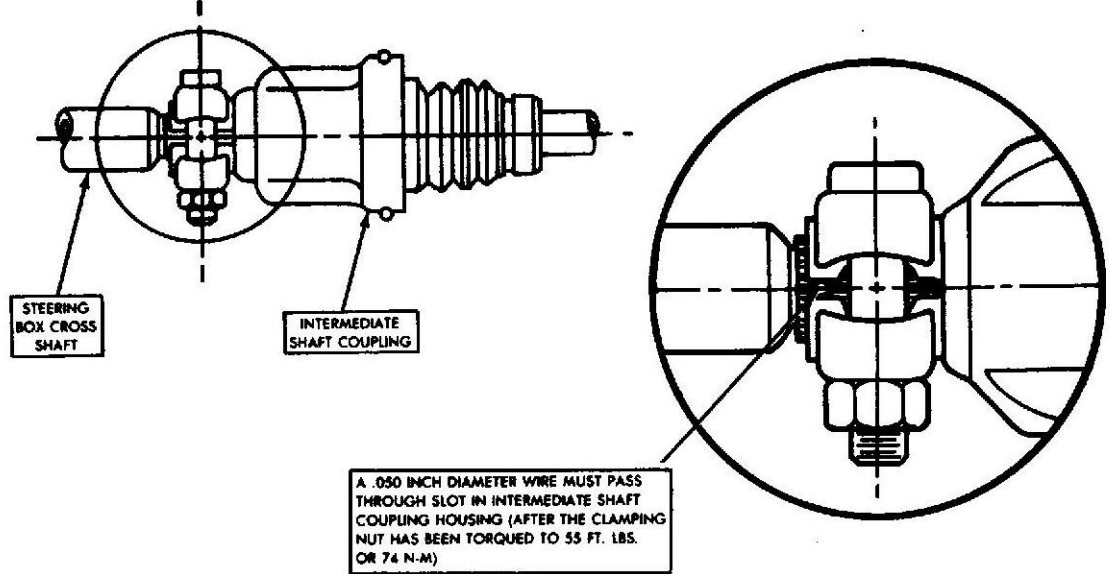

Figure 1
- (1) Torque intermediate shaft coupling housing clamp bolt to 55 foot pounds (74 newton meters) (see figure 1).
- (2) Inspect intermediate shaft coupling by passing a 3/64" drill (approximately .050" diameter wire) through entire length of slot (see figure 1). If drill or wire will not pass freely through slot, replace intermediate shaft coupling as described below under Replacement Procedure.
- (3) If intermediate shaft coupling passes inspection apply a daub of white paint on top of steering box, in a highly visible area, and return vehicle to owner.